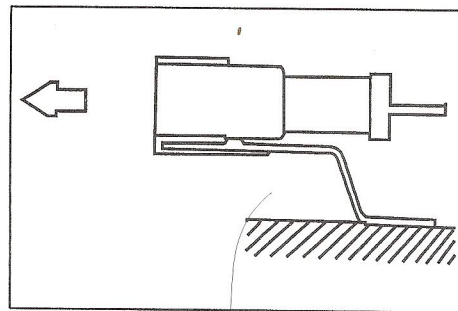

Fig. 07-11
- 2) Pull out a plug from bracket plate (See Fig. 07-11).